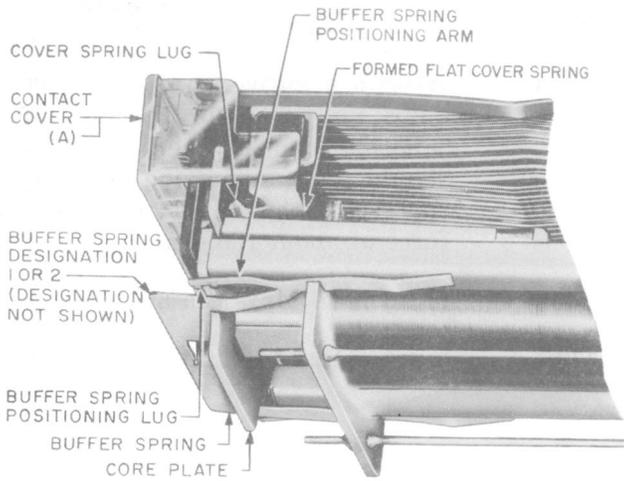

Fig. 1—AL Type Relay Showing Contact Cover and Buffer Spring
(b) The buffer springs for the AL-type relays are furnished in two thicknesses, 0.012 inch and 0.016 inch. In most cases where a buffer spring is required, the 0.012-inch thick spring is adequate for meeting the electrical release timing requirements but in a few cases use of the 0.016-inch spring is necessary. For identification, the 0.012-inch thick spring (P-16A279) is stamped 1 and the 0.016-inch thick spring (P-16A070) is stamped 2 in the position indicated in Fig. 1.
2.04 Contact Cover Tightness: Fig. 1(A)—The contact cover shall be held firmly in place.